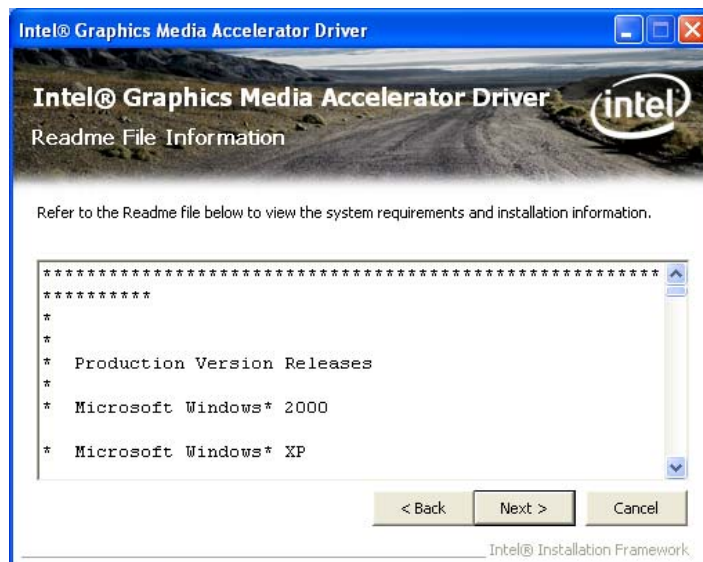

Figure 7-12: VGA Driver Read Me File
Step 10: The Read Me file in **Figure 7-12** appears.